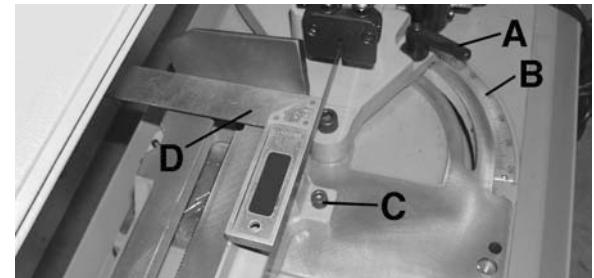

FIGURE 12
- 1) Unlock the swivel base lock handle (A) Fig.12 and pivot cutting head until the pointer reads "0" on scale (B).
- 2) Loosen the 2 table cap screws (C) on both sides of the table.
- 3) Using a square (D), adjust the table so that it is square with the blade, retighten the table cap screws once the adjustment is done.